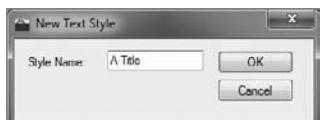

FIGURE 8.4 Setting the name for the new text style
4. Enter A-Title in the Style Name text box, as shown in Figure 8.4.